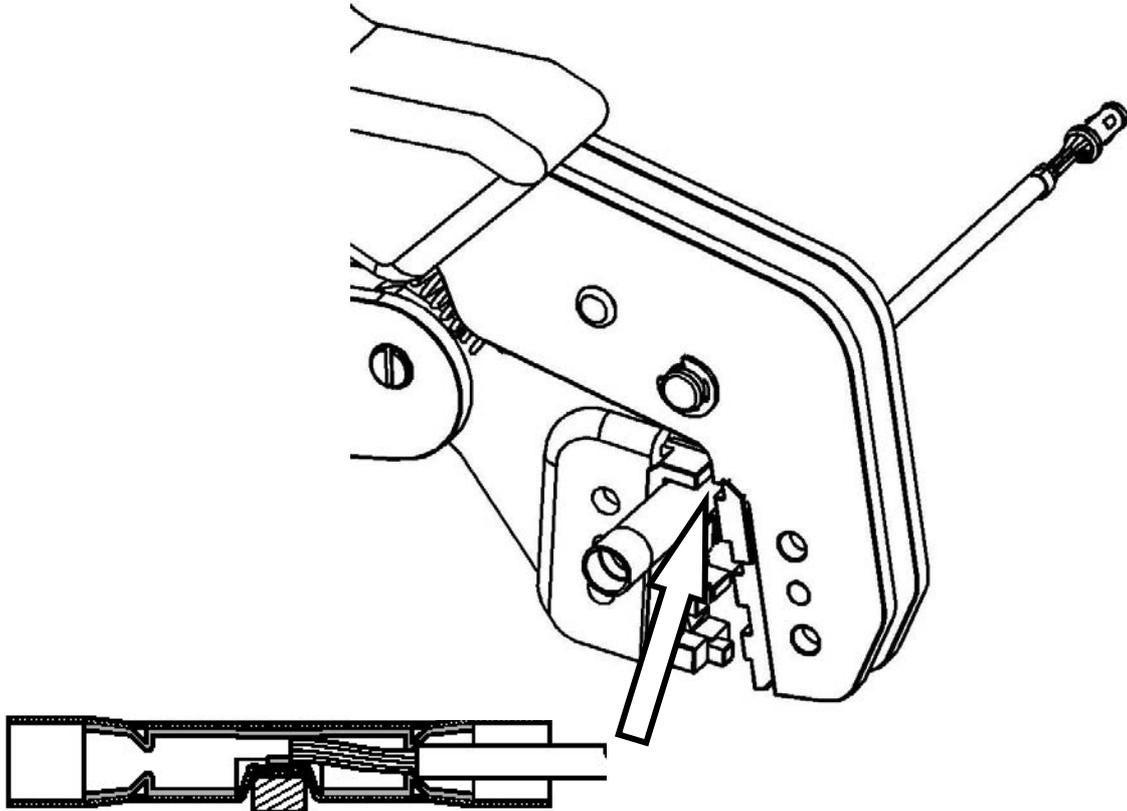

Figure 9 Splice correctly located in crimp pliers.
6. During this next step do no overtighten. Place the selected butt splice connector in the crimping tool, matching the aperture and the butt connector colours, (see Figure 9). Ensure that the window indentation in the butt connector is resting over the guide bar on the lower jaw. Partially close the grip until the butt connector is securely held in the aperture. This will give support to the butt connector while the pre-terminated lead is inserted into it